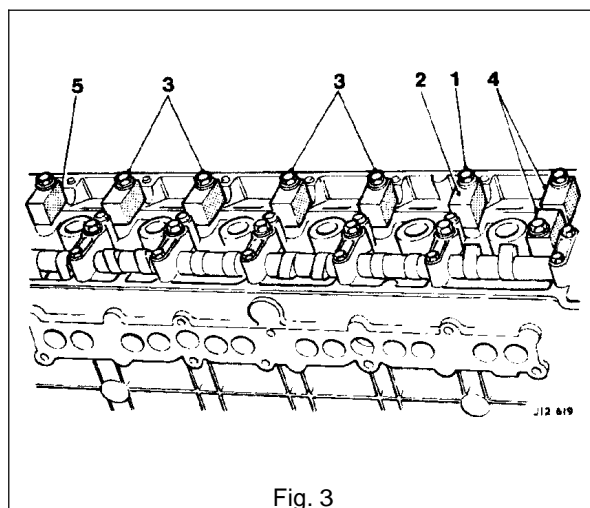

Fig. 3
- Remove the cylinder head bolt from No. 2 cap, left-hand camshaft (1 Fig. 3).
- Fit spacer tool 18G 1435 (2 Fig. 3) to the head.
- Repeat the procedure for Nos 3, 4, 5 and 6 caps, left-hand camshaft (3 Fig. 3).
- Loosen in sequence the securing bolts from Nos 1 and 7 caps, until the left-hand camshaft is free. Lift the camshaft from the cylinder head and fit spacer tool 18G 1435 to No. 7 cylinder head bolt position (5 Fig. 3). Fit and torque tighten the bolt.